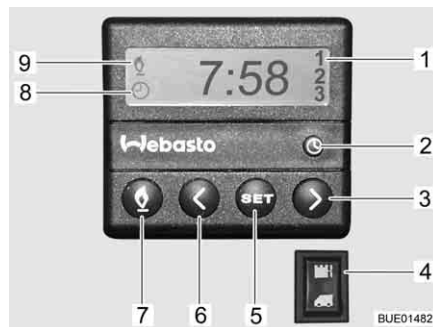

Fig. 171 Operating unit for independent vehicle heater
- Press the button (Fig. 171,7). The heating mode is displayed by the symbol (Fig. 171,9). The fan will only be switched on when there is a coolant temperature of 30 °C.
- Press the button (Fig. 171,7). The symbol (Fig. 171,9) goes off.
- Press the lower part of the switch (Fig. 171,4). Engine is preheated. The fan is switched on immediately.
- Press the upper part of the switch (Fig. 171,4). Engine stays cold.
- Press the button (Fig. 171,2). The time setting is displayed by the symbol (Fig. 171,8).
- Set the time with the buttons (Fig. 171,3 and 6).
- Press the button (Fig. 171,5).
- Set the switching on time within ten seconds, with the buttons (Fig. 171,3 and 6).
- Keep pressing the button (Fig. 171,5) until the selected programme number (Fig. 171,1) appears in the display.